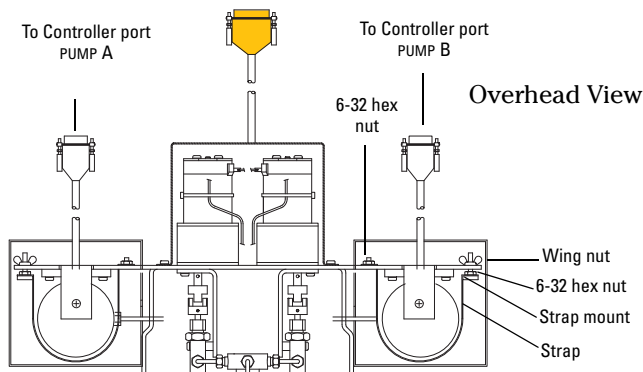

Figure 2: Electric valve installation
For the steps that follow, refer to Figures 2 and 3.
Electric Valve Package – The actively controlled electric valve package requires a special interface board mounted inside the controller. Connect the DB-25 cable to the controller rear panel “SFX 220/VALVES” connector, as shown in Figure 2.
- b. Route the outlet (see Figures 2 and 3) to waste or reservoir and press RUN. Press STOP when fluid comes out of the outlet.